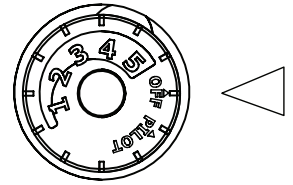

Fig. 25 - Control Knob
2. Turn control knob clockwise ↻ to the "OFF" position (See Fig. 25).
3. Wait five (5) minutes to clear out any gas. Then smell for gas, including near the floor. If you smell gas, STOP! Follow "B" in the safety information above. If you don't smell gas, go to the next step.